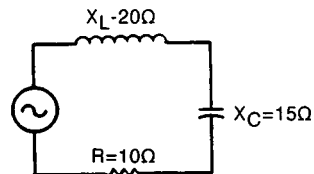

Figure 5-57
1. What is the impedance of the circuit shown in Figure 5-57?